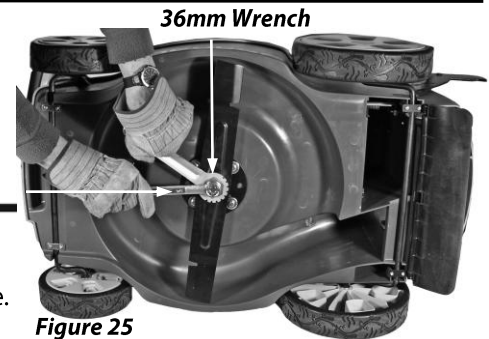
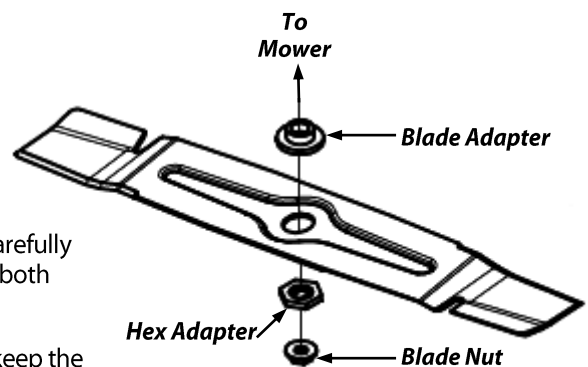

Figure 25
Figure 26
1. Place the 36mm Wrench over the Steel Hex Adapter (the large metal piece that holds the Blade in position) and place a 3/4" Wrench or Socket over the Blade Nut (**Figure 25**).
3. Remove the Blade Nut, Steel Hex Adapter, Blade, and Steel Blade Adapter in that order (**Figure 26**).
4. To install a sharpened Blade or a new Blade, reverse the order of step 3. Be sure to replace all parts exactly as you removed them (**Figure 26**) and make sure to properly seat the Blade.
**NOTE:** Be sure that the stamping on the Blade "THIS SIDE TOWARDS MOWER" is facing the Mower. Also, if replacing the Blade with a new one, use the new Nut supplied. If you assemble the Blade more than ten (10) times, replace the Blade Nut with a new one.
5. Place the 36mm Wrench over the Steel Hex Adapter, then place a 3/4" Wrench (or optional Torque Wrench with a 3/4" Socket) over the Blade Nut (**Figure 25**) and while holding the Hex Adapter in place; tighten the Blade Nut securely (16.6 Ft-Lbs) by turning clockwise. Again, be careful, hold the Hex Adapter firmly in place so that the Blade does not spin and strike your hand.